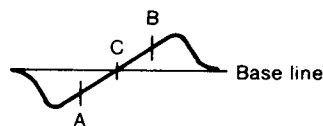

Fig. 6
2. Use the T202 core to form the S-curve shown in Fig. 6. Adjust the symmetry of A and B about point C for linearity.